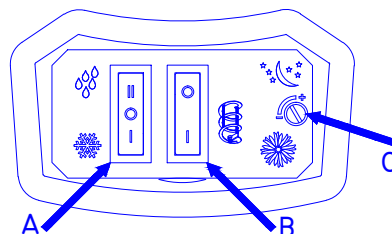

Fig. 5
2.4 Bowl controls (Fig. 5)
B in position  - I see Fig. 5
In position  - II (see Fig. 5)